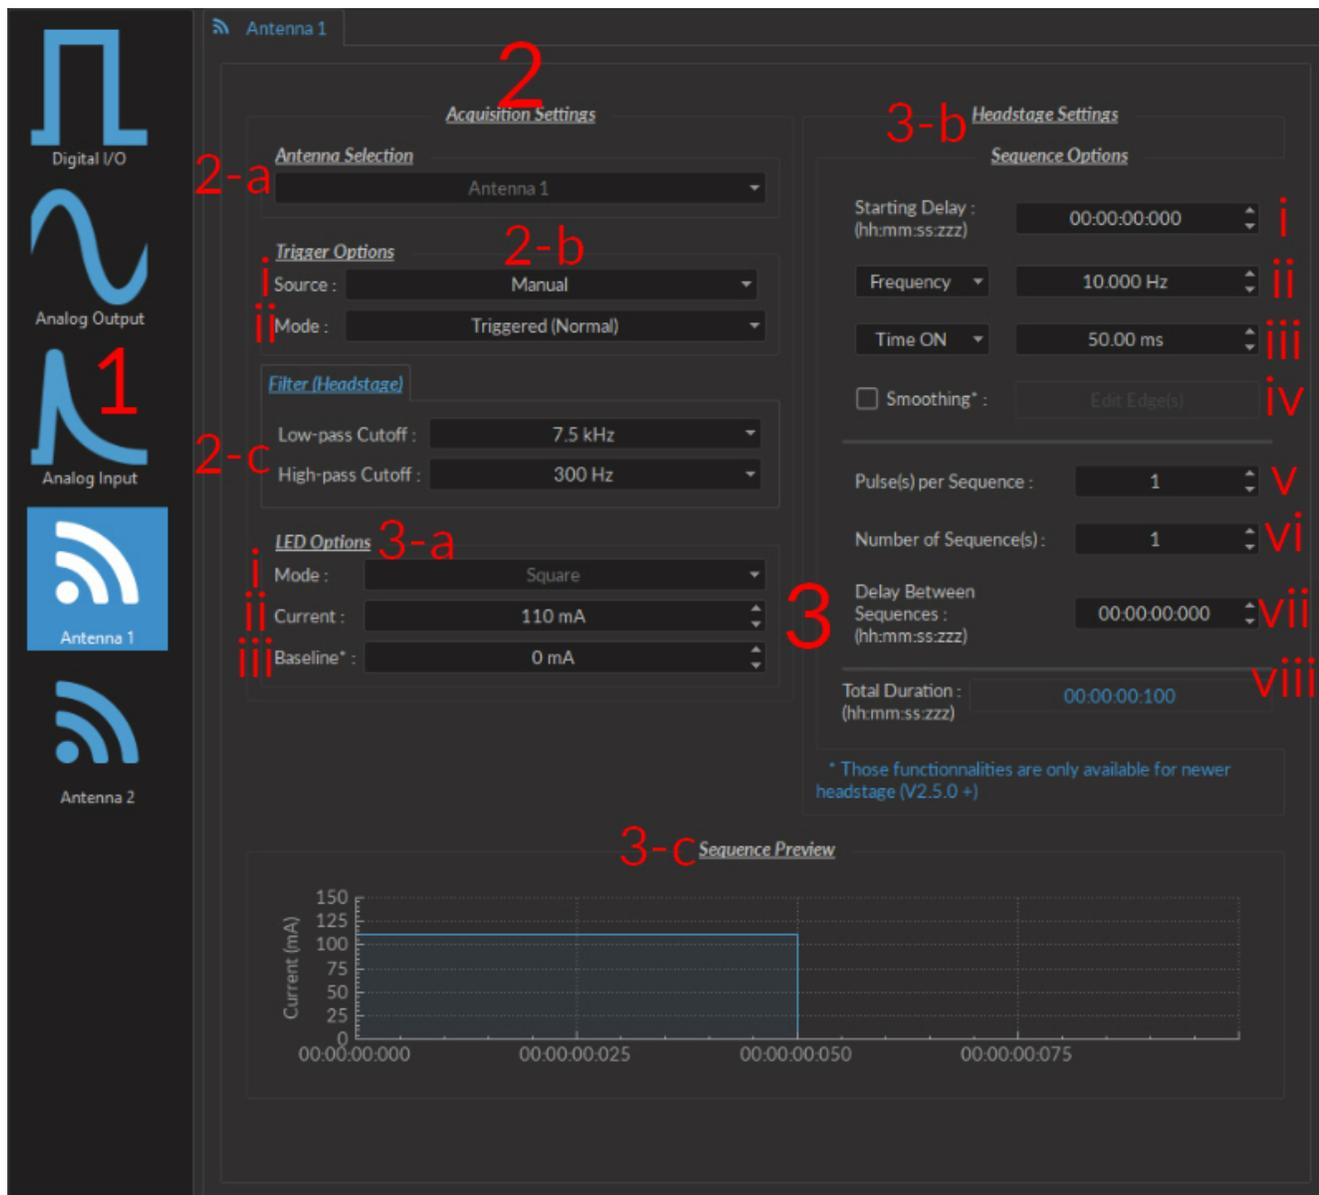

Figure 3.2: Electrophysiology channel configuration window
1. The **Channel Types** (Fig. 3.2) are selected on the left side of the window. Selecting the channel icon will display the parameters of each respective **Channel type**.
2. The **Wireless settings** (Fig. 3.2) are used to select recording and transmission settings.
- a) The **Antenna selection** (Fig. 3.2) box shows the currently selected antenna.
- b) The **Trigger options** (Fig. 3.2) box allows the selection of trigger parameters for data acquisition.
- c) The **Pre-processing** (Fig. 3.2) filters define the high and low-pass frequency cutoff for electrical signal received by the headstage.
3. The **LED options** (Fig. 3.2) are all parameters used to control the light source of the cannula connected to the *Fi-Wi* headstage.
- a) The **Channel options** (Fig. 3.2) are used to control the LED mode and current.
- i. The **Mode** (Fig. 3.2) allows the selection of the pulse sequence mode. At time of writing, only **Square** mode is available.
- ii. The **Maximum current** (Fig. 3.2) defines the current sent to the cannula LED. For proper function of the cannula, the current should always be greater than 10 mA.
- iii. The **Baseline** (Fig. 3.2) leaves a small offset to the current sent to the LED. It is recommended to use a small offset, as a complete shut-down of the LED will induce a spike in the electrical acquisition signal.
- b) The **Sequence options** (Fig. 3.2) box is where LED pulse sequence parameters are defined.
- i. The **Starting Delay** (Fig. 3.2) sets the delay (in hh:mm:ss:zzz format) before the first pulse.
- ii. The **Frequency/Period** (Fig. 3.2) sets the frequency (in Hz) or period (in ms) for the pulse sequence. For example, a signal at 10 Hz (frequency) will output one pulse every 100 ms (period), whereas a pulse sequence at 0.5 Hz (frequency) will output one pulse every 2000 ms (period).
- iii. The **Time ON/Duty Cycle** (Fig. 3.2) sets the time (in ms) or the duty cycle (in %) for each pulse. The **Time ON** must be lower than  $(1/\text{frequency})+0.005$  ms, while the **Duty cycle** must be below 100 %. These squares will appear red should an impossible **Frequency/time ON** be selected.
- v. The **Pulses per sequence** (Fig. 3.2) sets the number of pulses per sequence. If it is set to 0, the pulse will be repeated indefinitely.
- vi. The **Number of sequences** (Fig. 3.2) sets the number of times that the sequence will be repeated. If it is set to 0, the sequence will be repeated indefinitely.
- vii. The **Delay between sequences** (Fig. 3.2) sets the delay (in hh:mm:ss:zzz format) between each sequence if the **Number of Sequences** is greater than 1.
- viii. The **Total Duration** (Fig. 3.2) displays the total time of the experiment. The different values can be *Inf* for infinite, a valid time value or *Err* if the **Time ON** value is greater than  $1/\text{frequency}$ .